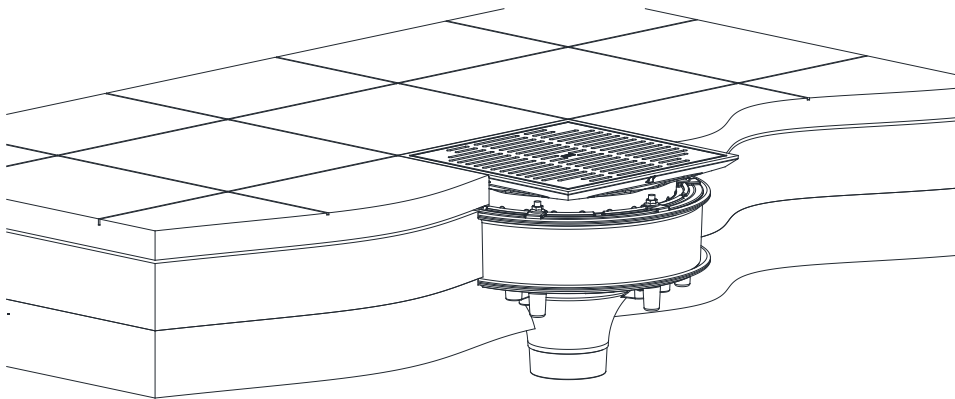

Fig. 4
Step 10 - Complete construction of the promenade deck surface as required so that finished roof surface is flush with top of frame. (Fig 4)